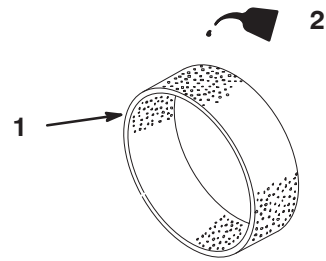

Figure 32
4. Put one or two ounces of oil on the element (Fig. 32).